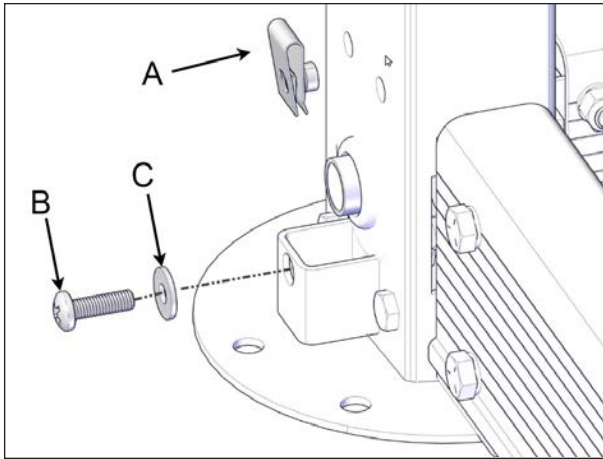

FIGURE 45: CLIP-ON BARREL NUT INSTALLATION
18. Install the clip-on barrel nuts at the bottom of the non-motor-side jack assemblies to hold the sleeves in the bottom. Use Phillips M6 x 20 mm screws and 1/4" nylon washers. Only the non-motor-side jack assemblies need clip-on barrel nuts to be installed see Figure 45.